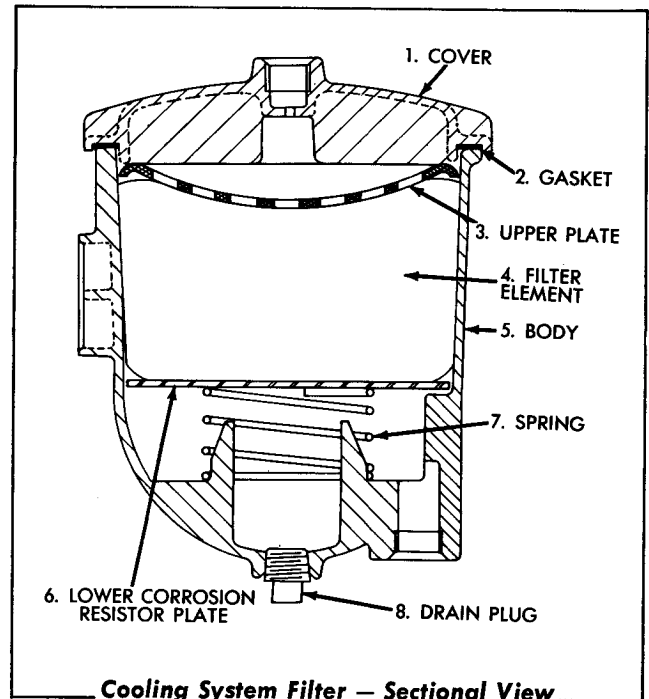

FIG. 34
A replaceable type lower corrosion resistor plate (Fig. 34) is provided in the filter body to control electrolytic action. Control of electrolytic action prevents pitting of the metal tubes and walls within the cooling system.
Each time the filter element is replaced, the lower corrosion resistor plate (Fig. 34) should be inspected and buffed to a bright finish with a wire brush or wheel. When the plate becomes thin and pliable, or develops large jagged holes, it **MUST** be replaced.
6. Inspect and clean lower corrosion resistor plate as described above. Refer to Fig. 34 and install spring and lower corrosion resistor plate in filter body.
7. Install a new filter element in filter body. Refer to Fig. 34 and install upper plate in filter body.